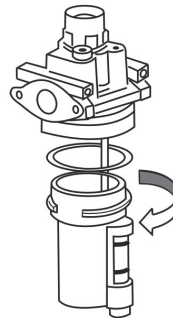

Fig.33
- Check the oil level in the sprayer regularly. If the oil level does not reach the second line, fill L-HM46 (Fig. 33).